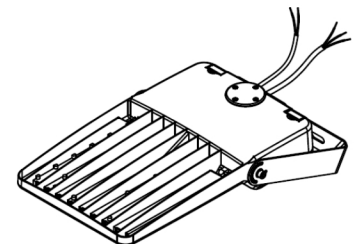

Fig. 4
4. Keep enough length wires to ensure adjusting angle unhindered. refer to the wiring layout Fig. 16, (black to line, white to neutral, and yellow/green to ground), as shown in Fig. 4